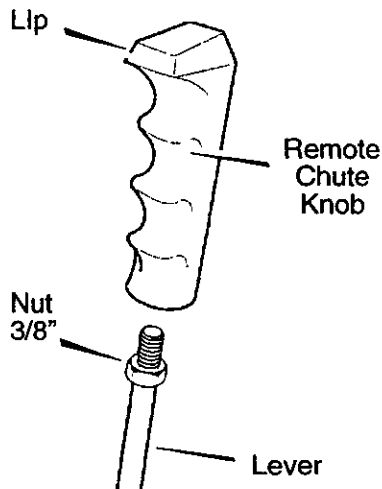

Figure 7
1. Install the **nut** onto the **lever**. See Figure 7.